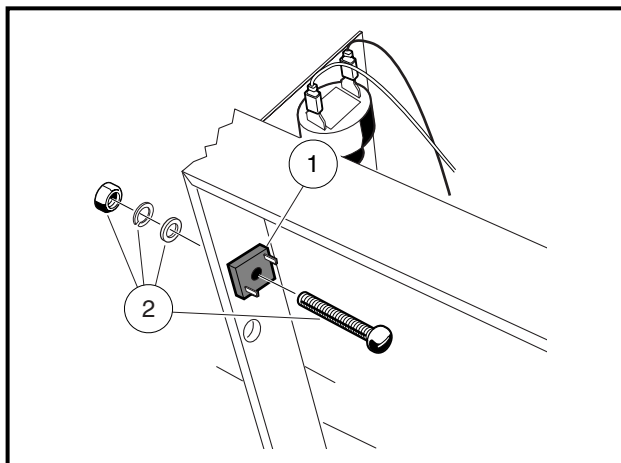

Figure 12-31 Headlight Diode
4. Disconnect wires from the headlight diode (1) (**Figure 12-31, Page 12-27**).
5. Remove the mounting hardware (2) from the headlight diode and remove.
1. Mount the headlight diode to the frame and tighten to 25 in-lb (2.8 N·m) (**Figure 12-31, Page 12-27**).